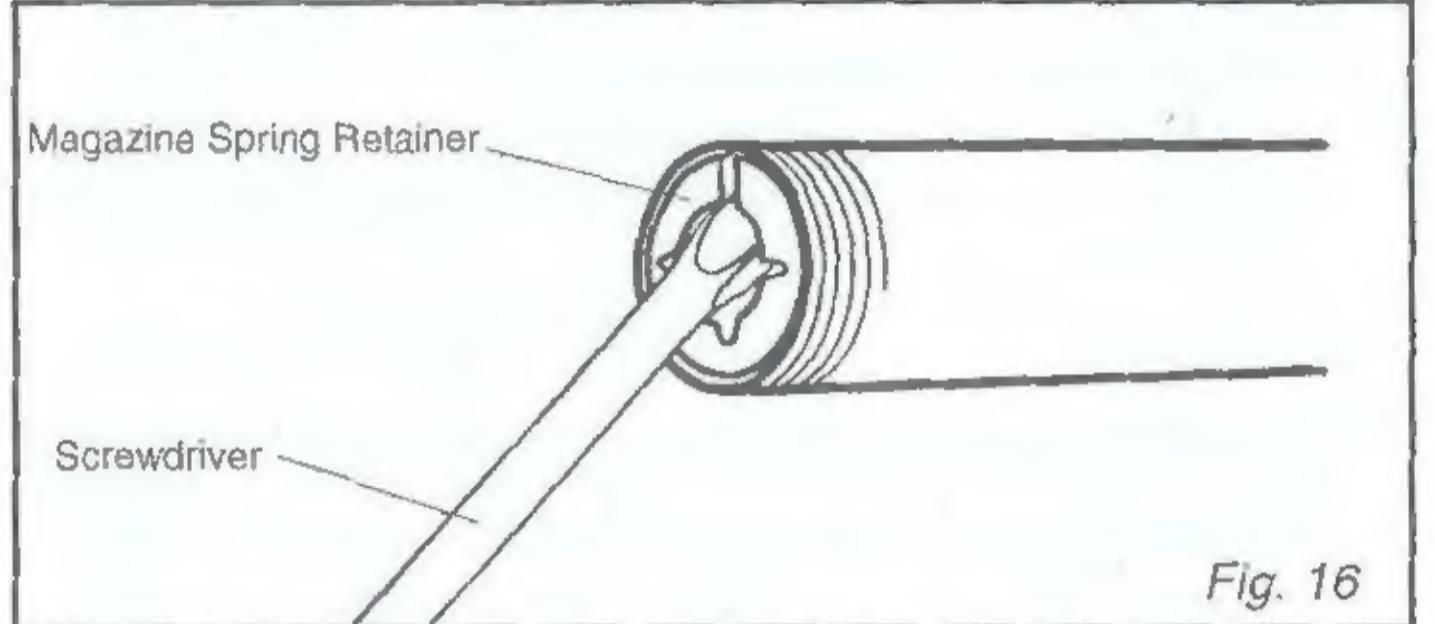

Fig. 16
- Put a screwdriver in the open end of the magazine tube and insert the tip under the rim of the magazine spring retainer. See Fig. 16.